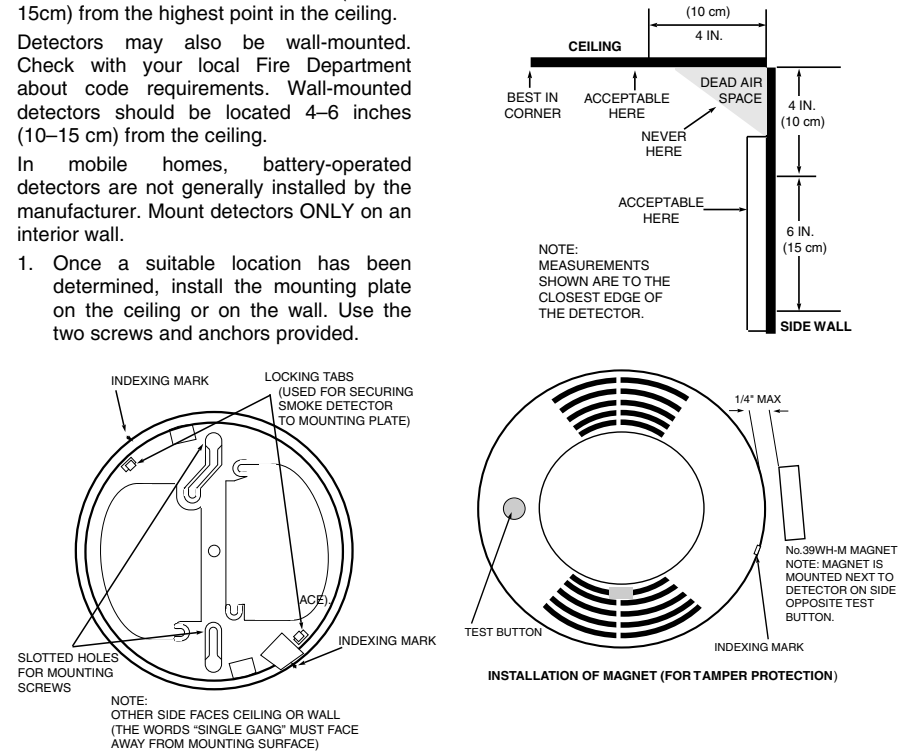

Figure 2. Mounting Details
3. If the tamper has been enabled (as indicated previously), a magnet (No. 39WH-M) should be mounted on the wall or ceiling surface next to the detector (1/4" max) in the specified location (see Fig. 2).